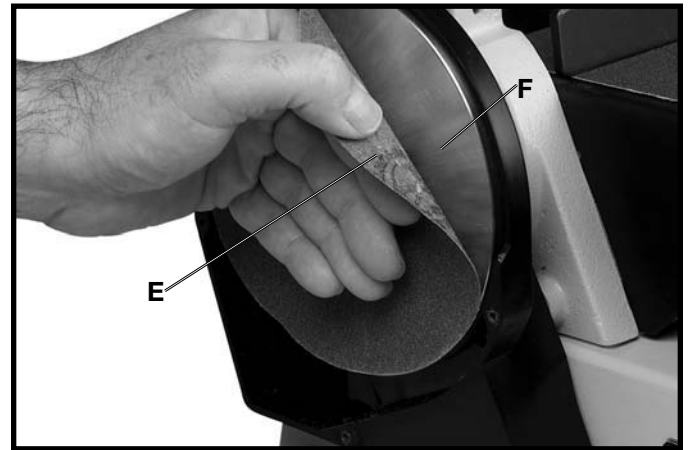

Fig. 44
4. Peel off old disc (E) as shown in Fig. 44.
5. Make sure the disc plate (F) Fig. 44, is clean and peel backing from new sanding disc. Press the new sanding disc firmly into position on disc plate (F) and replace lower cover and table assembly which were removed in **STEPS 2 and 3**.